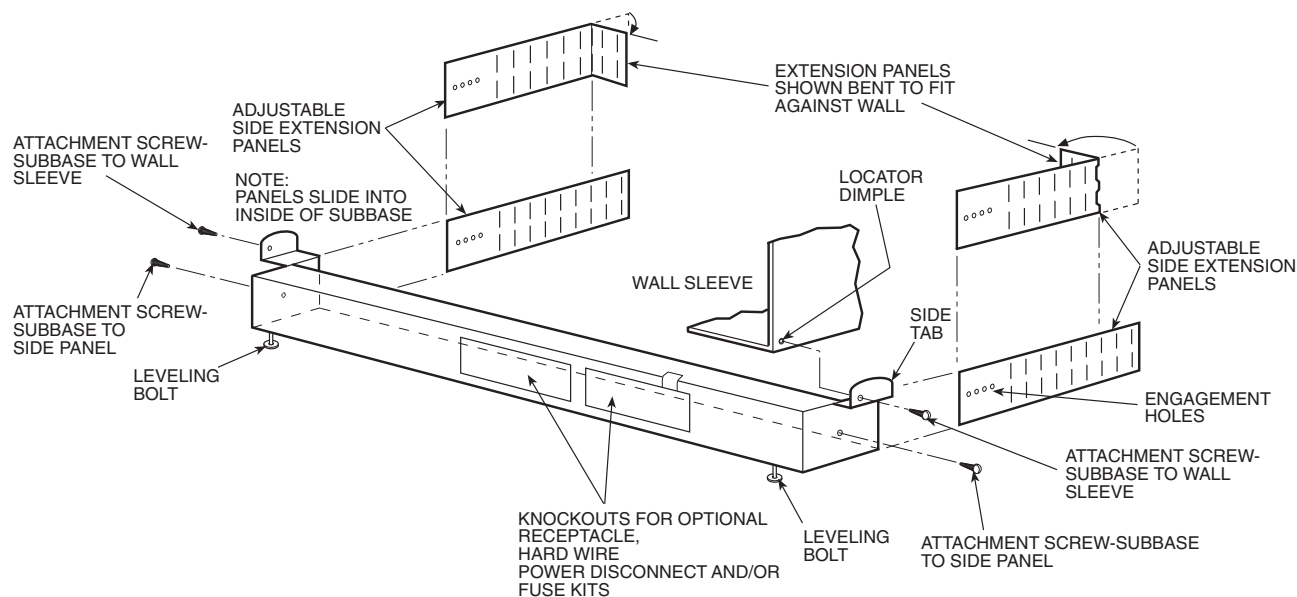

Fig. 1 — Subbase Assembly
These instructions cover the installation of the Non-Electrical Subbase Accessory. The Non-electrical Subbase Accessory package consists of the subbase, 2 adjustable side extension panels, and 4 attachment screws. See Fig. 1.
Step 1 — Prepare wall sleeve. Drill one 1/8 in. hole on each side of wall sleeve. If installing plastic sleeve, use locator dimple on outside of sleeve, found near bottom, front section. Drilling can be done through the plastic from inside if desired. See Fig. 1.
Step 3 — Attach Side Extension Panels to subbase using 1 black screw on each side so that panel end extends dimension X plus 2 in. from front of subbase. To adjust side panel, simply bend panel at slot position. See Fig. 1.
NOTE: Use engagement holes for more exact fit to wall. See Fig. 1.
Step 4 — Attach subbase to wall sleeve. Subbase has side tabs for mounting the subbase to the sleeve. Be sure hole on side tab is lined up with locator hole on side of sleeve. Once holes are aligned, attach subbase to sleeve with (1) one black screw on each side. *Do not overtighten.* See Fig. 1 and 3.